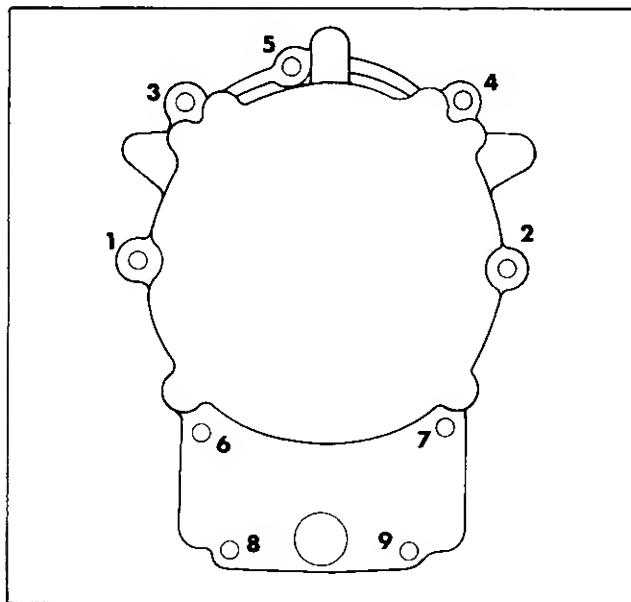

Figure 8-26. Closure Plate Screw Tightening Sequence
- Position closure plate gasket on crankcase. Secure plate to case, with nine 5/16-18 x 1" hex washer screws turned in finger tight. Tighten the screws to 150 in. lbs. following the recommended tightening sequence shown in Figure 8-26.